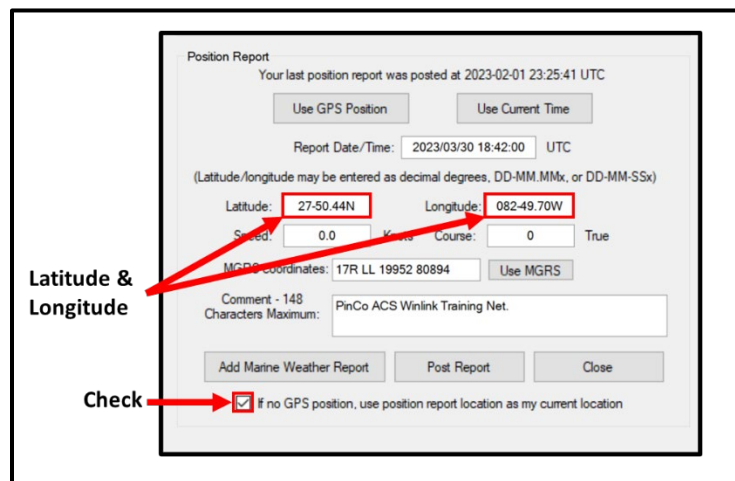

Figure 3. Winlink GPS / Position Report Window
- (1) Obtain the Command Runner's current location from one of the following devices.
- (2) Enter the **Latitude** and **Longitude** data into the fields identified in Figure 3.
- (3) Verify that the Check box at the bottom of the **GPS / Position Report** Window is checked. If not, check the box.
- (4) Click on the **Close** button.